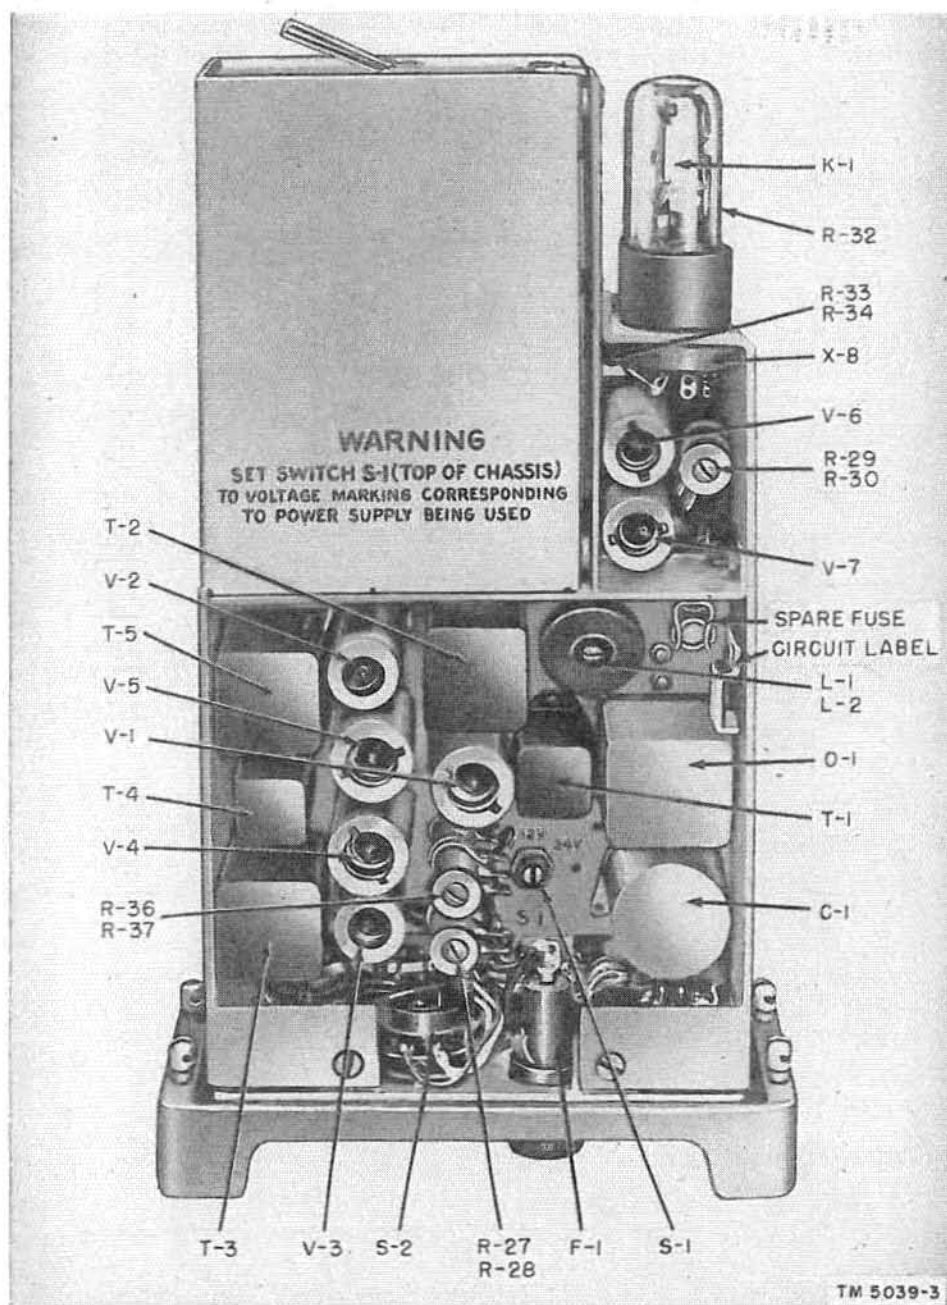

Figure 60. AF amplifier AM-65/GRC, top view of chassis.
a. FUSE. The panel-mounted fuse may be removed by unscrewing the fuse cap which also serves as a fuse extractor. A spare fuse is located in a fuse clip on the amplifier chassis (fig. 60).
b. THERMAL RELAY AND BALLAST TUBE. Thermal relay K-1 and ballast tube R-32 are mounted in a horizontal position at the rear of the amplifier chassis (fig. 60). After removing the panel-chassis assembly from the case, remove the relay or ballast tube with a straight horizontal pull. Do not rock or jiggle the component in its socket; the socket prongs may be damaged.
c. TUBES. All tubes are accessible from the top of the chassis when the case has been removed (fig. 60). To remove any tube, first remove the tube shield and then use a tube puller. Do not rock or jiggle a tube in its socket; the tubes are easily damaged by careless handling.